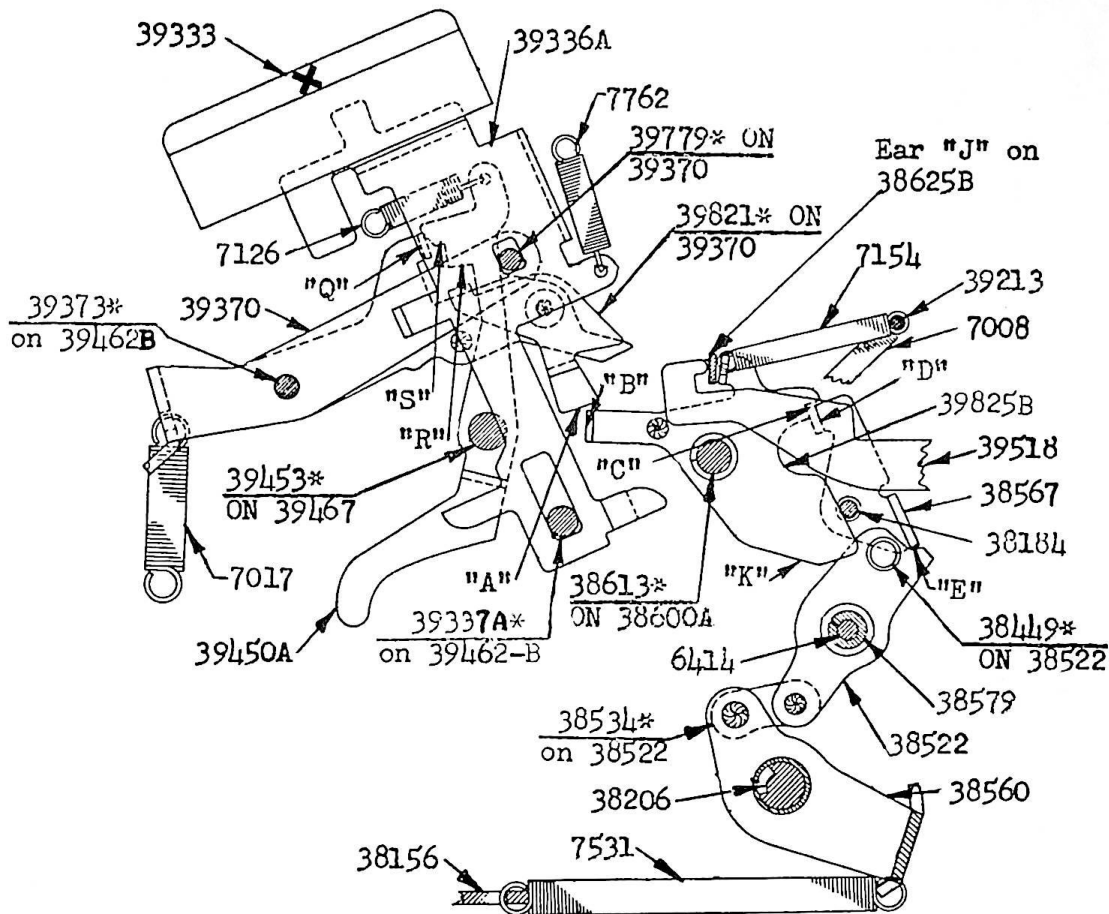
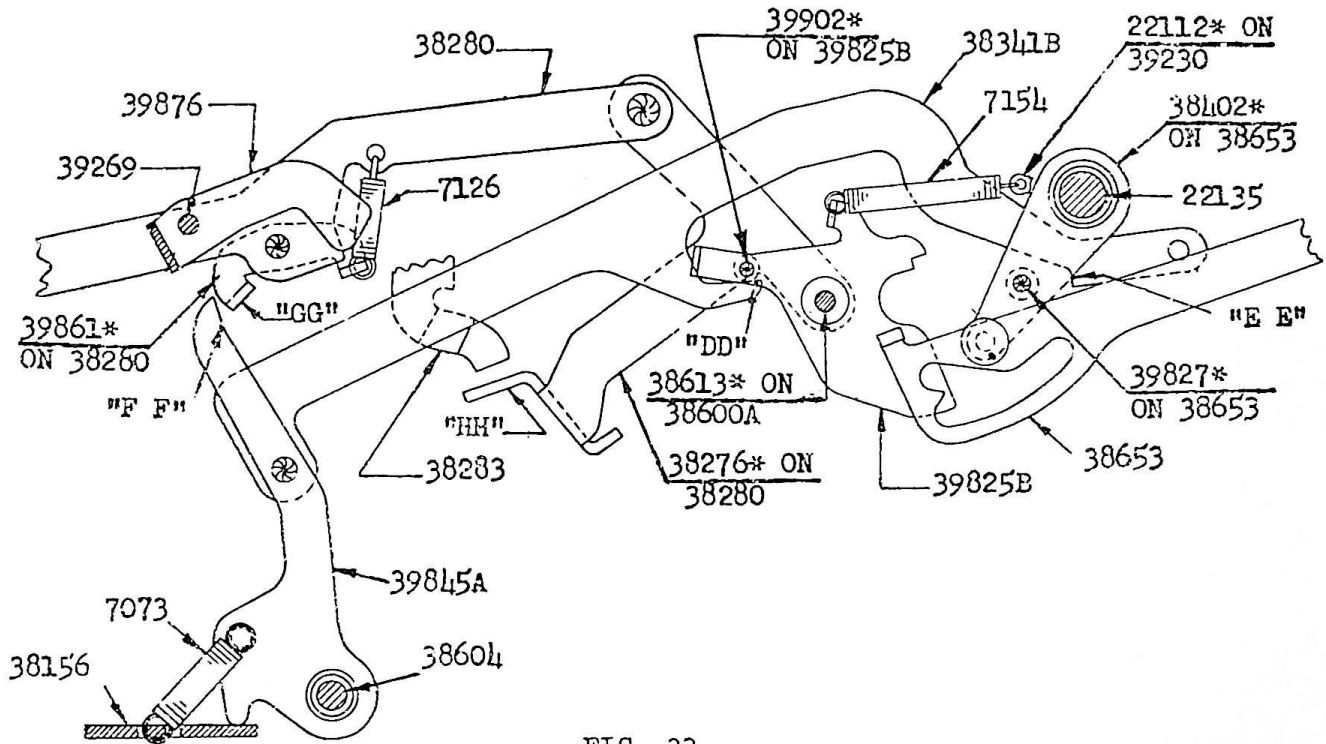

FIG. 25
FIG. 33
1. (FIG. 25). Depression of the Multiplier Key 39336A rocks the Multiplier Key Bail-39370 through a slot in the key stem engaging Stud-39779* on 39370. Surface "A"
3. (Fig. 25 & 27). In addition to rocking 39825B, the surface "A" on the Multiplier Key Bail Live Point-39821* also rocks the Multiplier Starting Lever-38610B through its ear "H" which, in turn, rocks the Equals Starting Lever-38625B counter-clockwise through Stud-38638B* on 38610B. (Figs. 25 & 27). Ear "J" on 38625B pulls the Master Clutch Control Link-39518 forward and opens the
Master Clutch in the same manner as the Dividend Key. (Section I-Para. B-1 on Pages 1208 & 1209). To assure opening the Master Clutch upon release of Bail-38560 in case of a sharp partial depression of the X-Key, a surface "K" is provided on 39825B which is cammed counter-clockwise by Spacer-38449* on 38522 when 38522 is released to rock counter-clockwise. (Fig. 25). Counter-clockwise movement of 39825B brings its ear "L" into contact with ear "J" on 38625B which positively
5. (FIG. 25 & 27). Rotation of Master Clutch rocks Lever-38635A counter-clockwise. Stud-39776A* on 38635A will now contact the surface "N" on the Live Point-39821* and rock 39821* so that its surface "A" comes clear of the Ears "B" and "H", allowing the Bail-39370 to be latched down and limiting Master Clutch to one cycle while the Levers-38610B and 39825B return to their normal posi-
tions. Stud-39776A* also contacts surface "P" on Bail -39370 and rocks it farther clockwise to allow its ear "Q" to be latched by surface "R" on the X Bail Latch-39450A.(FIG. 25). The first Latching surface "S" on 39450A is to prevent a jamming condition in the event that the X Key is depressed sharply in such a manner that after opening of the Master Clutch the Bail-39370 would come back to a position where the Stud-39776A* on 38635A could hit the very tip of the surface "P" on 39370.
11. (Fig. 33). When the Primary Latch-39825B is rocked counter-clockwise by the X-Key, (Fig. 25), its Stud-39902* lowers the Mult. Keyboard Clear Link-38341B through surface "DD" and thus brings the surface "EE" into the path of Stud-39827* on Link-38653. During the final phase of the Master Clutch Cycle the Stud-39827* pulls the Link-38341B rearward